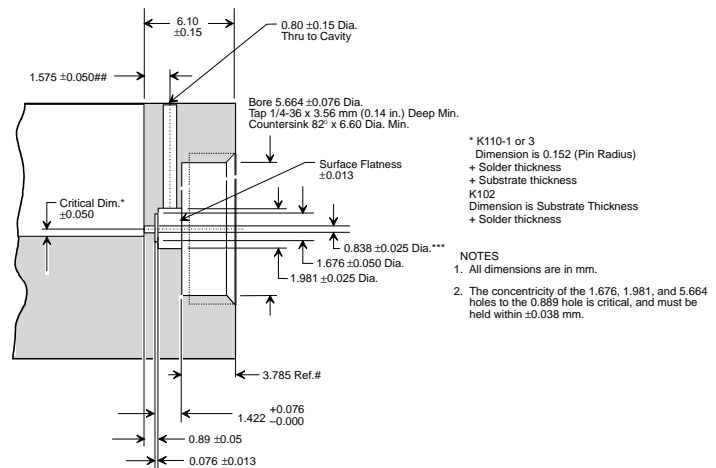

Figure 2. Machining Dimensions
- Drill the hole as shown in Figure 2 for the 6.096 mm wall thickness.